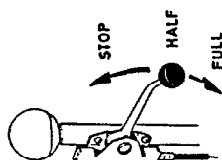

Fig. 3
2. Governor handle (18) in full speed position, pointing down (fig. 3). Fill valve lubrication cup (fig. 1, pos. 3) with lubricating oil.